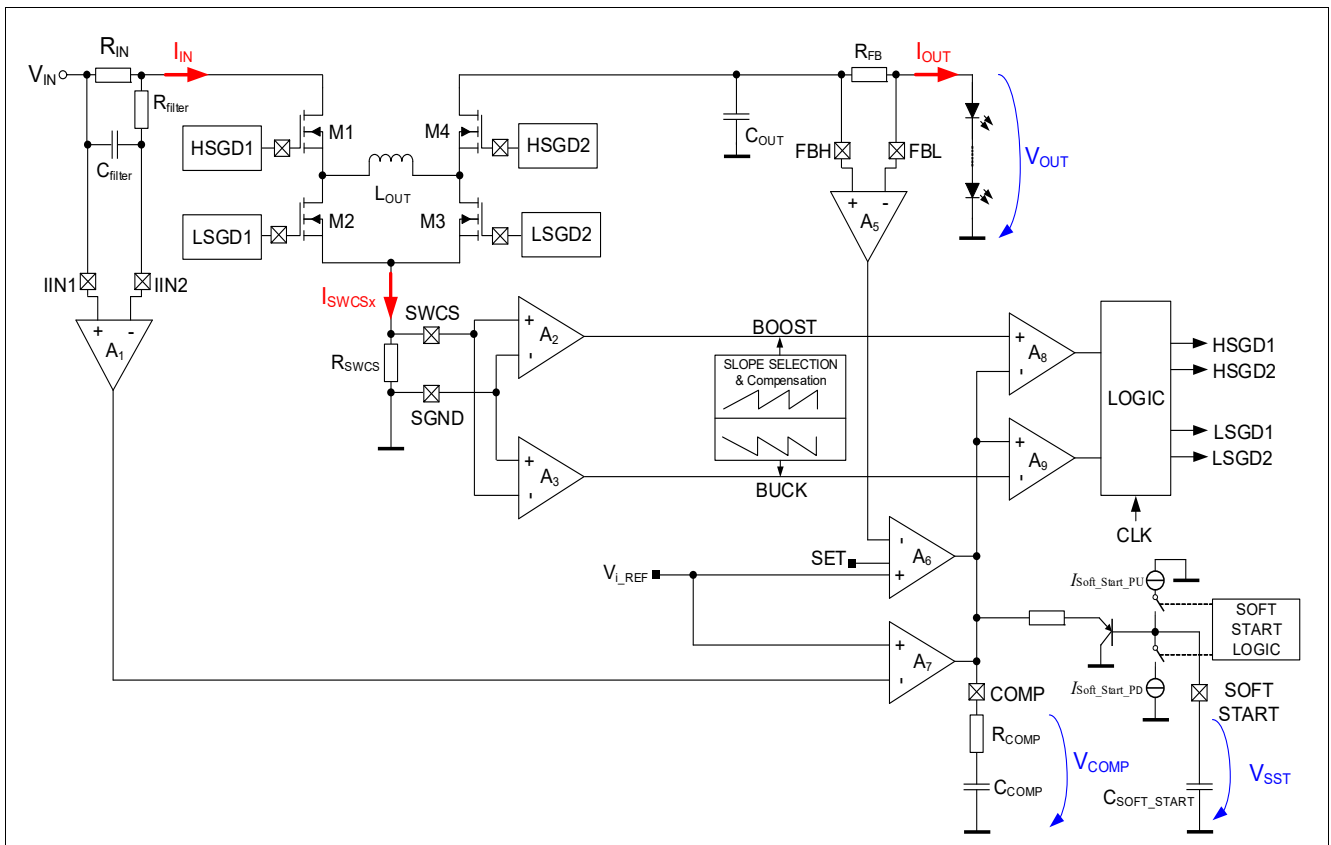

Figure 7 Regulator block diagram with soft start circuitry - TLD5190
The TLD5190 includes two analog current control inputs (IIN1, IIN2) to limit the maximum Input current (Block A1 and A7 in Figure 7).
The control loop block diagram displayed in Figure 7 shows a typical constant current application. The voltage across R_{FB} sets the output current. R_{IN} is used to fix the maximum input current.
- Limit input inrush current and output overshoots by limiting V_{comp} (**Figure 7**) in boost mode
The Soft Start routine limits the inrush current by clamping the COMP pin through a buffer as in **Figure 7**. Therefore this functionality is effective only when soft start capacitor is sufficiently larger than the COMP capacitor and its effect is visible mainly in buck-boost and boost regulation mode.